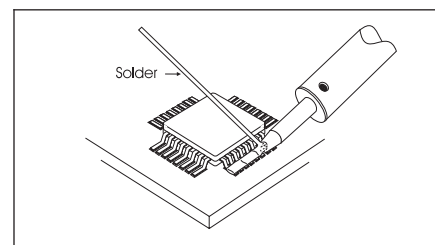

Figure 1 Bridge Fill
4. Using soldering handpiece, melt solder to form a solder bridge fill, joining all component leads. (See Figure 1.)